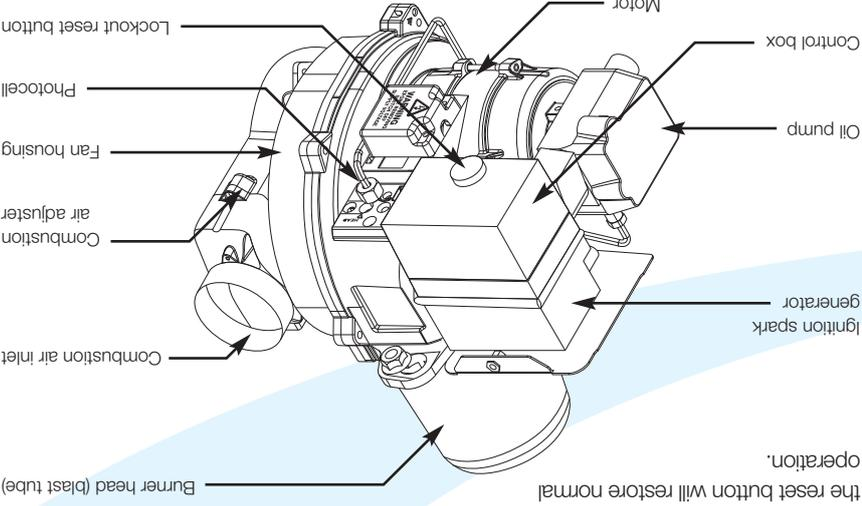

Figure 3: Burner fuel pump
Figure 3 shows the Lockout Reset button along with other main burner components.
4. Check if the burner 'Lock-out' indicator neon on the control panel is lit. If it is, locate the lockout reset button on the burner behind the control panel. See Figure 3.
4. Check if the burner 'Lock-out' indicator neon on the control panel is lit. If it is, remove the upper front casing panel and locate the lockout reset button on the burner behind the control panel. See Figure 3.